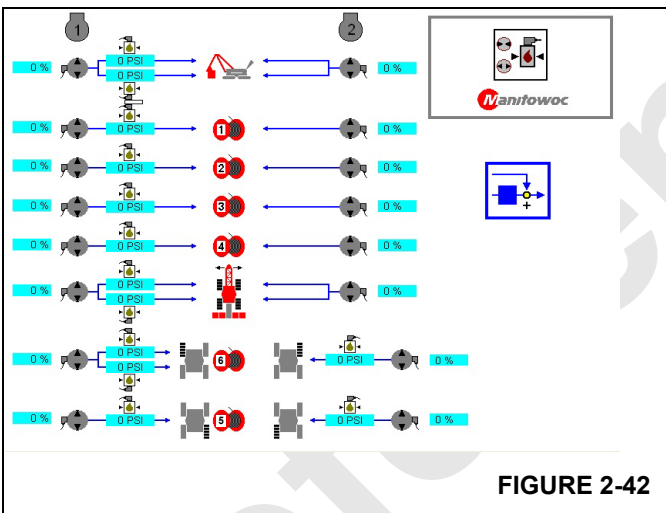

FIGURE 2-42
5. Then press  or  until a **blue** border appears around the icon as shown (Figure 2-42).